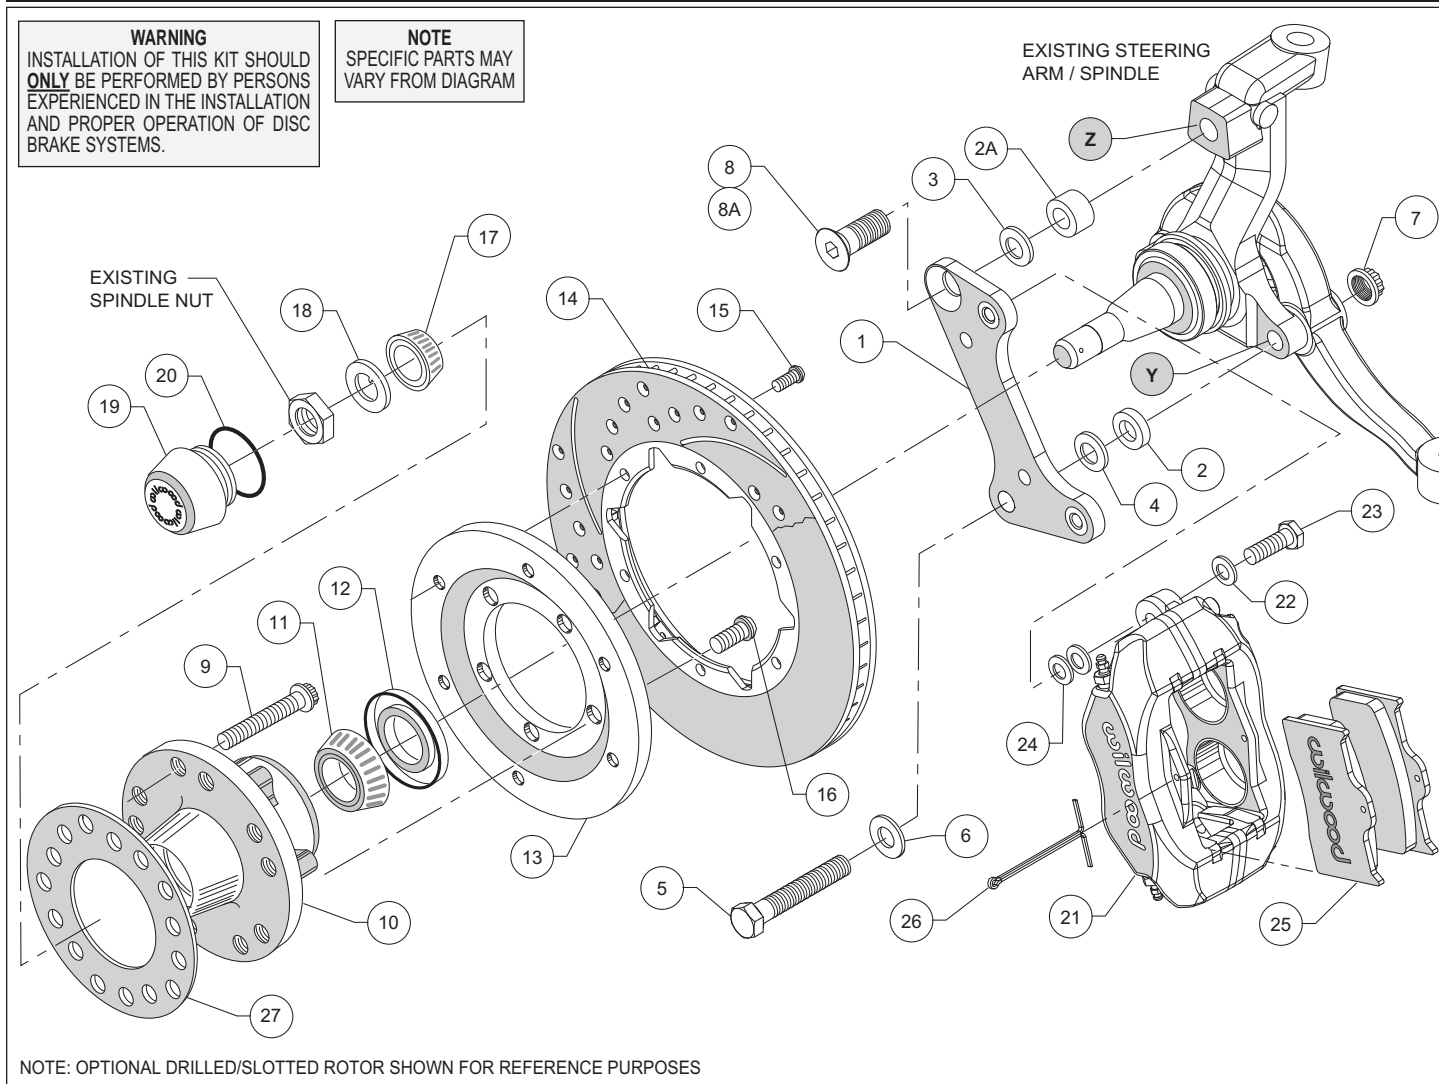
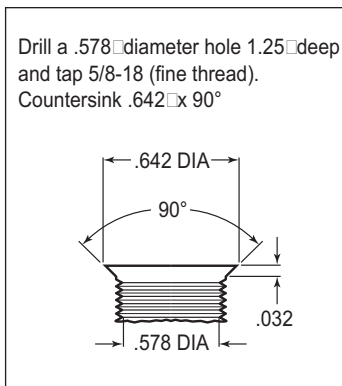

Figure 1. Typical Installation Configuration
Figure 3. Drill and Tap Detail
**Assembly Instructions** (numbers in parenthesis refer to the parts list and Figure 1 on the preceding page): **CAUTION:** All mounting bolts must fully engage clinch nuts. Be sure to check that all bolts are either flush or protruding through flanged side of clinch nut after shimming, Figure 4.
•**NOTE:** 1964-66 spindles may require the following modifications (reference Figure 1 and Figure 3): Top anchor pin hole (Z) must be drilled and tapped to the dimensions as outlined in Figure 3. Bottom rear steering arm bolt hole (Y) in the spindle and steering arm must be enlarged to .50" by drilling.
- Pack the large inner bearing cone (11) with high temperature disc brake bearing grease (available from your local auto parts store) and install into the backside of the hub (10), Photo 2.
- Install the grease seal (12) by pressing into the backside of the hub (10), flush with the end of the hub, Photo 2.
- Orient the rotor (14) and the rotor adapter (13) as shown in Figure 1 and Photo 3. Attach the rotor to the adapter using bolts (15). Using an alternating sequence, apply red *Loctite*® 271 to the threads, and torque to 25 ft-lb.
- Mount the adapter/rotor assembly (13/14) to the hub (10) using bolts (16), as shown in Figure 1 and Photo 4. Using an alternating sequence, apply red *Loctite*® 271 to the threads, and torque to 55 ft-lb.
- Attach caliper mounting bracket (1) to spindle face using lower bolt (5), washer (6), and a .090" thick spacer (2) positioned between the bracket and the spindle face, as shown in Figure 1 and Photo 5. Secure bolt on the backside of the steering arm with lock nut (7). Finger tighten. Install upper bolt (8) (for drum spindle) or bolt (8A) with spacer (2A) between bracket and spindle (for disc brake spindle), Photo 6. Ensure that the flanged heads of the clinch nuts in the bracket are facing outboard, Photo 6. Temporarily tighten the mounting bolts and install the new hub/rotor assembly (10/14). Check that the bracket is aligned parallel to the rotor, Photo 7. If not, adjust by adding shim washers (3 and/or 4) between spacers (2 and/or 2A) and the bracket, Figure 1. Once the bracket alignment is correct, remove the upper bolt (8 or 8A), apply red *Loctite*® 271 to bolt threads, and torque to 120 ft-lb. Torque lock nut (7) to 65 ft-lb.
- Pack the small outer bearing cone (17) with high temperature disc brake bearing grease and install into hub (10). Slide the hub/rotor assembly onto the spindle. Secure using spindle washer (18) and OEM spindle nut, Photo 8. Adjust bearings per OEM specifications. Install saved OEM nut lock (if any) and a new cotter pin (not included).
- Screw dust cap (19) into hub (10). Friction created by the o-ring on the dust cap keeps it from unscrewing. **NOTE:** The O.D. of the existing OEM spindle washer may be larger than the I.D. of the dust cap not allowing it to seat against the hub face. Therefore, use the spindle washer (18) supplied with the kit instead of the OEM washer.
- NOTE:** Please reference the caution statement at the beginning of the assembly instructions. Mount the caliper (21) onto the caliper mounting bracket (1) using bolts (23) and washers (22), as shown in Figure 1. Initially place two .032" thick shims (24) on each bolt between the caliper and the bracket, Photo 9. Temporarily tighten the mounting bolts and view the rotor (14) through the top opening of the caliper. The rotor should be centered in the caliper, Photo 10. If not, adjust by adding or subtracting shims between the bracket and the caliper. Always use the same amount of shims